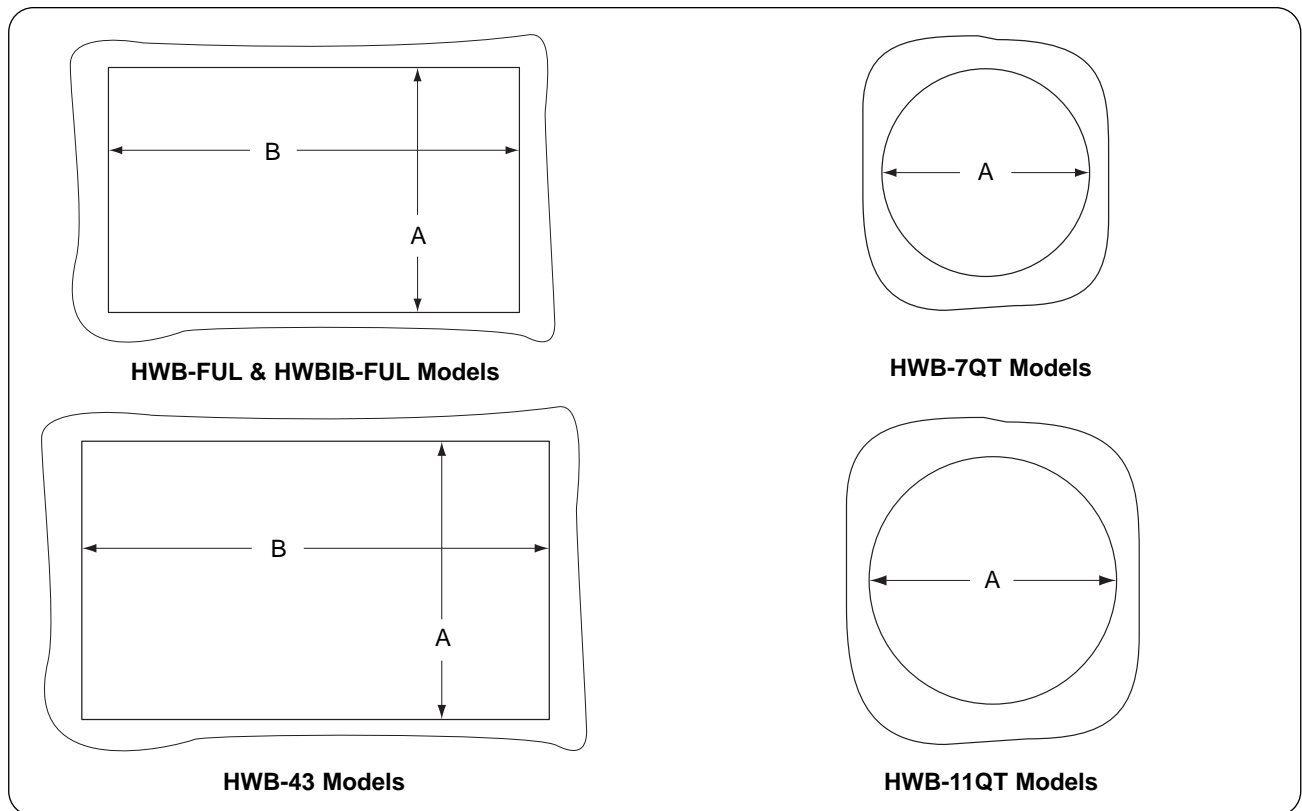

Figure 13. Non-Combustible Countertop Mounting Templates
1. Cut appropriate opening in countertop. (See Figure 13 for size requirements.)